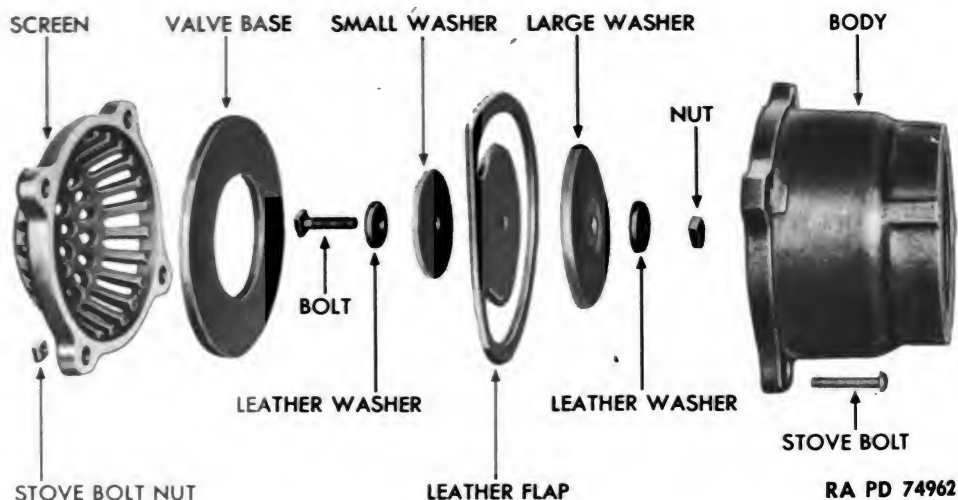
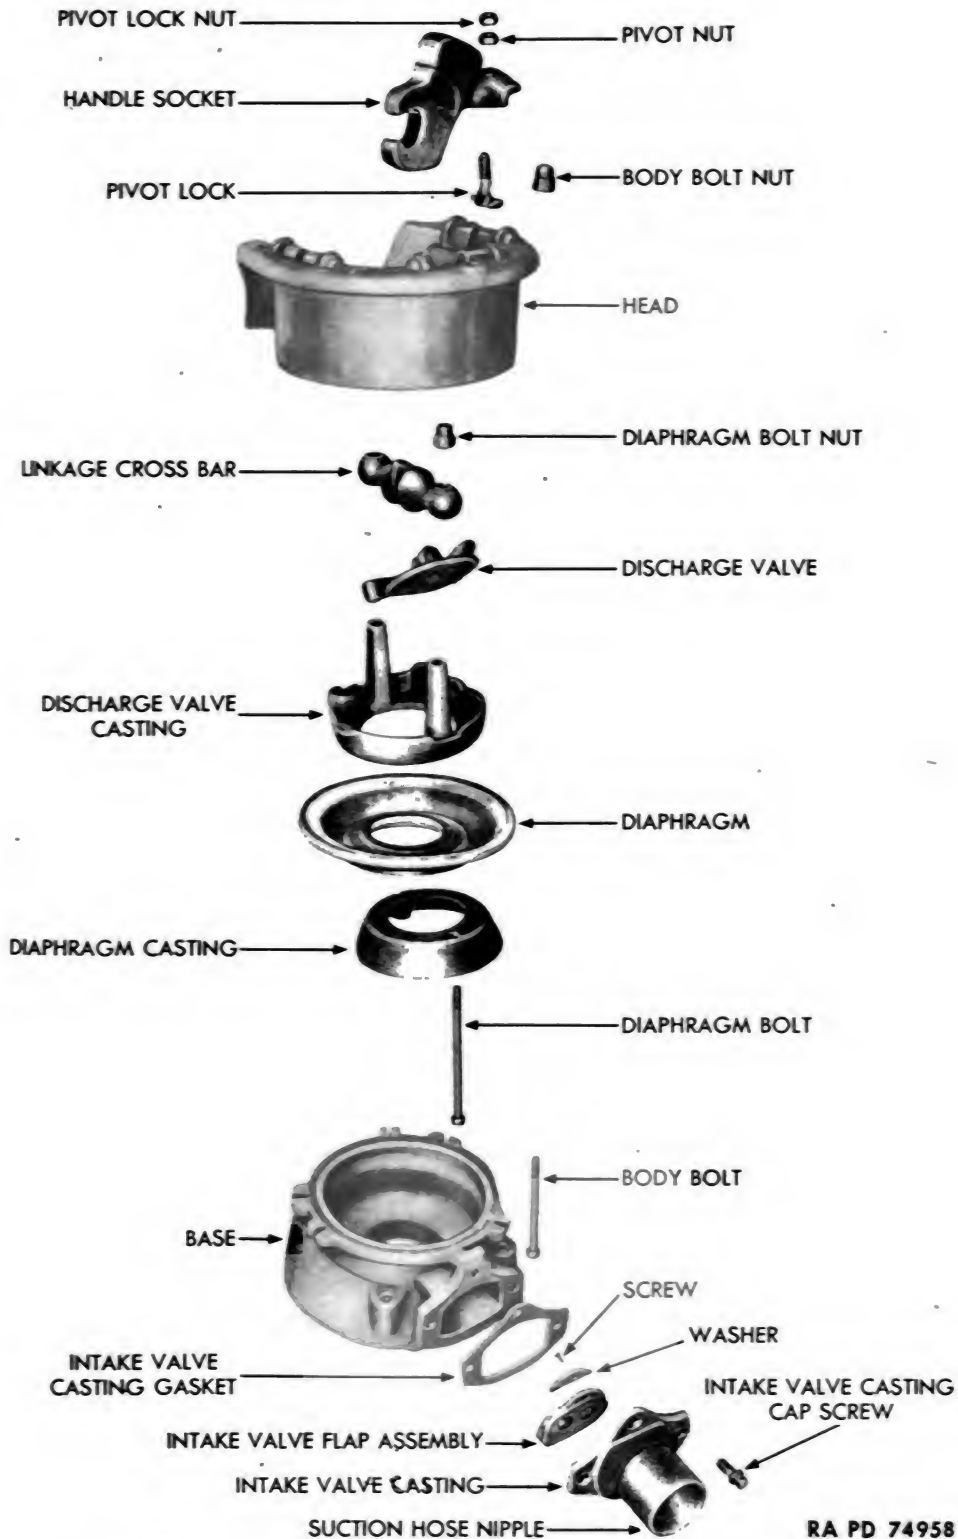

Figure 75 — Foot Valve — Exploded View
Figure 76 — Hand-operated Diaphragm Pump — Exploded View
(3) Worn, torn, or aged flap in intake or discharge valve.	(3) Disassemble valve (par. 55 d) and replace damaged part.
(4) Diaphragm worn, torn, or aged.	(4) Disassemble pump (par. 55 e) and replace diaphragm.
b. Pump loses prime quickly.	(1) Obstructed or damaged foot valve.	(1) Examine foot valve. Remove dirt or foreign matter. Replace flap if damaged (par. 55 a).
a. Disassembly of Foot Valve (fig. 75).
- (1) Remove the four stove bolts which secure screen to body.
- (2) Lift screen, flap valve assembly, and valve base from body.
- (3) Disassemble flap valve assembly by removing nut from bolt through its center. Lift leather washer, large washer, leather flap, small washer, and small leather washer from bolts.
b. Assembly of Foot Valve (fig. 75).
- (1) Assemble flap valve by placing leather washer, small washer, leather flap, large washer, and remaining leather washer on bolt. Tighten nut on bolt securely.
- (2) Place assembled flap valve and screen in position on body and install the four stove bolts. Tighten nuts securely on bolts.
c. Disassembly of Pump (fig. 76).
- (1) Loosen the three nuts on long body bolts. Slide bolts from slots in base. Lift head and diaphragm assembly from base.
- (2) Remove the three cap screws which secure intake valve casting to base. Lift valve casting and gasket from base.
- (3) Remove the two screws which attach intake valve flap assembly to casting. Lift flap assembly from casting. Disassemble flap valve assembly, if necessary, by removing the two screws which secure rubber between two iron plates. Remove suction hose nipple from casting.
- (4) Lift discharge valve from diaphragm. Remove pivot lock nut and nut. Lift handle socket and pivot lock from pump head. Remove the two nuts which attach linkage cross bar to long diaphragm bolts. Lift linkage cross bar from diaphragm bolts. Lift pump head from diaphragm assembly.
- (5) Drive the two long diaphragm bolts from bosses on discharge valve casting. Lift discharge valve casting and diaphragm from diaphragm casting.
d. Assembly of Pump (fig. 76).
(1) Insert the two long diaphragm bolts through hoses in diaphragm casting. Place diaphragm and discharge valve casting in position on bolts. Tap bolts to seat in discharge valve casting bosses.
(2) Place pump head in position on diaphragm assembly. Place linkage cross bar in position on diaphragm bolts. Install two diaphragm bolt nuts. Place pivot lock in position in slots provided in pump head. Insert handle socket onto pivot lock. Install pivot nut and lock nut. Place discharge valve in position on discharge valve casting on top of diaphragm.
(3) Install suction hose nipple in intake valve casting. Assemble intake valve by placing flap in position between two iron plates and installing the two screws which clamp plates together. Place flap valve assembly in position on intake valve casting. Install washer and the two screws which attach flap valve to casting. Place intake valve casting in position on pump base and install the three intake valve casting cap screws which secure casting to base.
(4) Place head and diaphragm assembly in position on pump base. Place heads of three body bolts in slots provided in pump base and through holes provided in pump head. Tighten body bolt nuts securely.